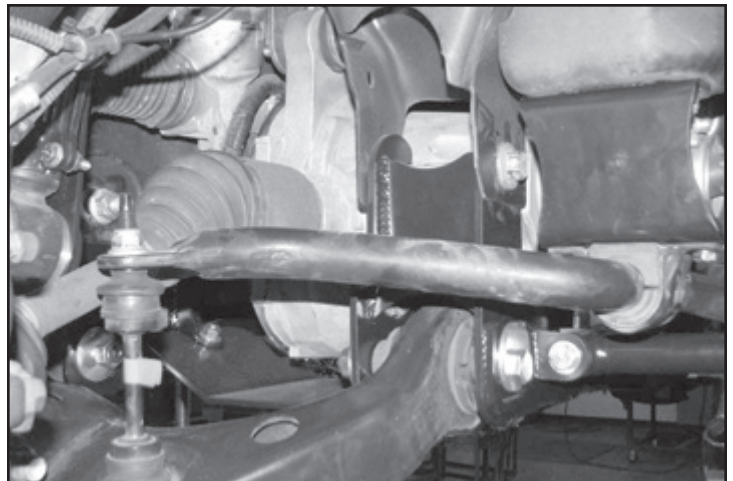

FIGURE 54 - STEP 56
56. Install the sway bar end to the factory lower control arm using the factory end links. **SEE FIGURE 54**